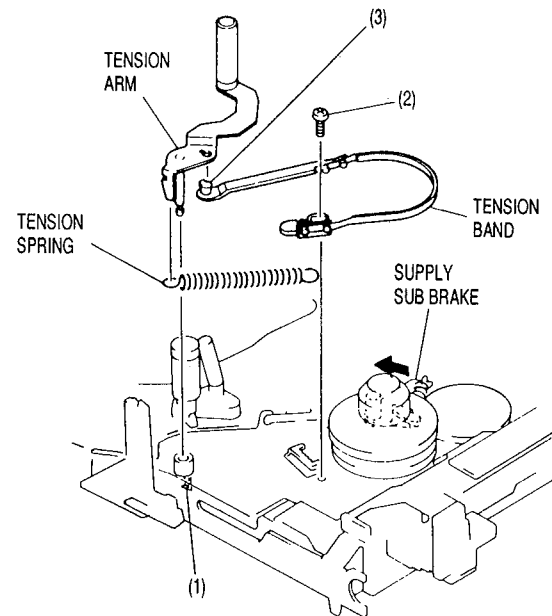

Fig. 3-14
- 1) Remove 1 tab (1) holding the tension arm (See Fig. 3-14)
- 3) Remove 1 screw (2) holding the tension band.
- 6) Release 1 tab (3) and remove the tension band from the tension arm.